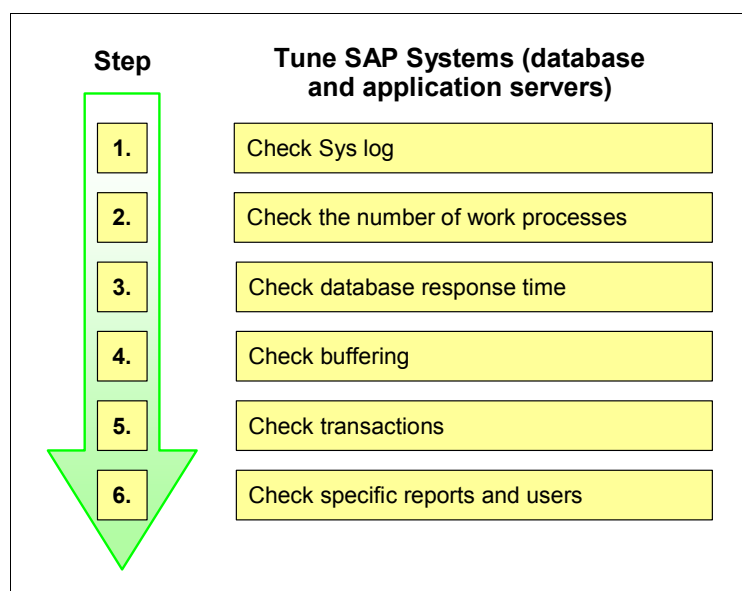
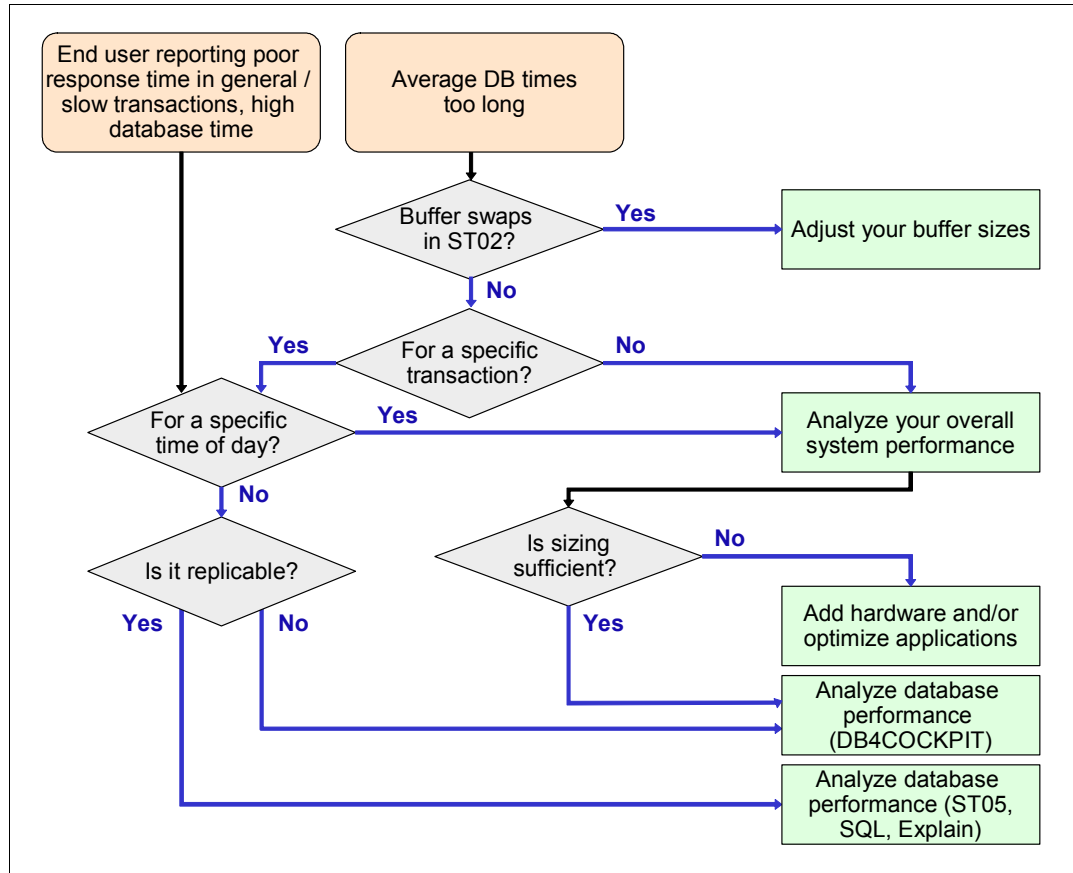

Figure 26-3 Steps to tune an SAP system
Figure 26-5 An approach to analyze database performance
Figure 26-3 shows the steps involved in tuning an SAP system.
The steps represented in Figure 26-3 are described in this section.
The steps following those shown in Figure 26-3 on page 539 include checking database response time, buffering, transactions, as well as specific reports or users as Figure 26-5 on page 542 shows.
- If the user problem or transaction can be repeated, use ST05 and SQL. Refer to step 5 and 6 in Figure 26-3 on page 539 to find long-running database statements.
To check the transactions (step 5 in Figure 26-3 on page 539), refer to 26.2, “Analyzing and optimizing single transactions” on page 554.
To check specific users and reports (step 6 in Figure 26-3 on page 539), refer to 26.1.1, “Tuning an SAP system” on page 539 and 26.2, “Analyzing and optimizing single transactions” on page 554.